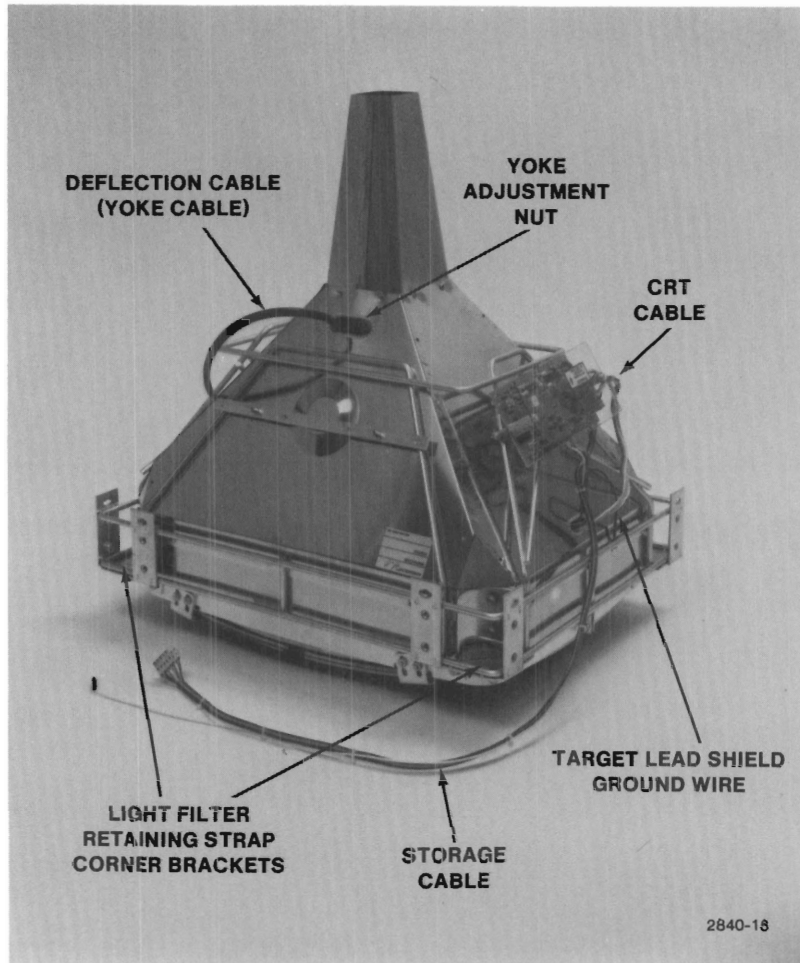

Figure 3-27. CRT Module.
8. Remove the securing nuts from the light filter retaining strap corner brackets (Figure 3-27). Disconnect the small ground lug located on one side of the crt module.